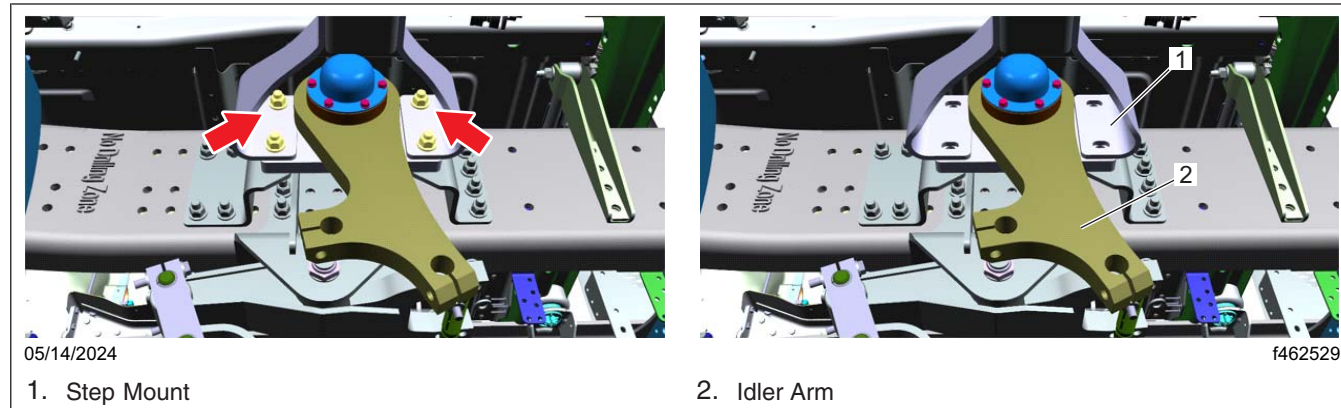

Fig. 3, Idler Arm Bracket Fasteners
5. Remove the four bolts that attach the idler arm bracket to the shared step mount. Be careful not to drop the idler arm when removing these bolts. Remove the step completely for access. See Fig. 3.